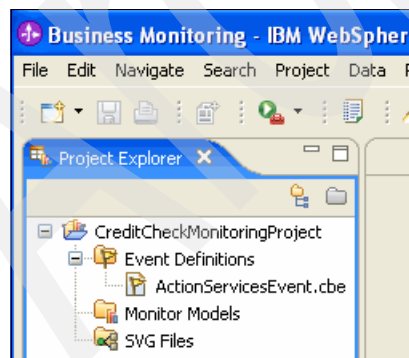

Figure 10-24 Typical monitoring project contents
5. Examine the resulting project. Figure 10-24 shows the project contents following the creation.